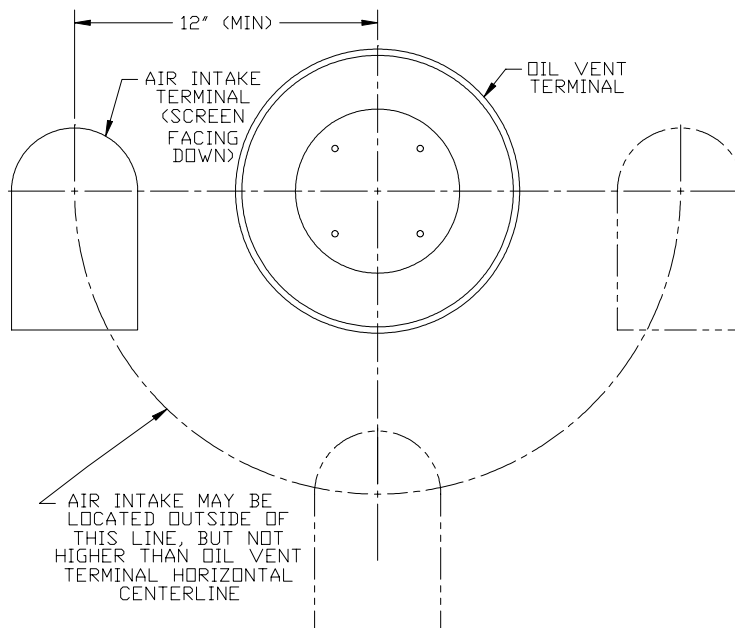

Figure 9: Intake Terminal Location
6. Intake Terminal Location (Direct Vent only) - Locate Air Intake Terminal not less than 12 inches to the left, right, or bottom of the vent terminal. Do not locate air intake terminal above vent terminal. Intake terminal must be at least 12 inches above grade plus snow accumulation. See Figure 9.